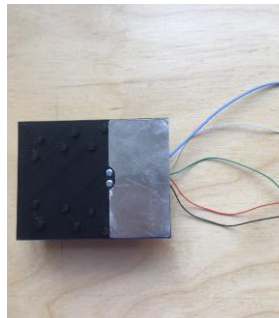

Fig. 4.2
- Secure WeightingStage_top on the load cell using another two screws (M2.5x12 mm) and nuts (Fig.4.2).